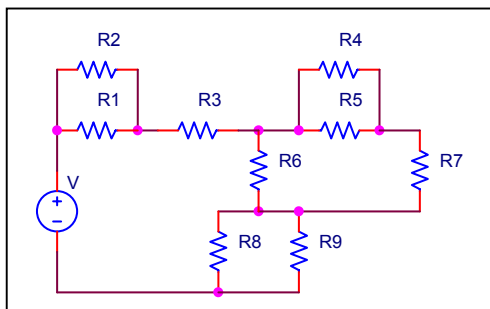
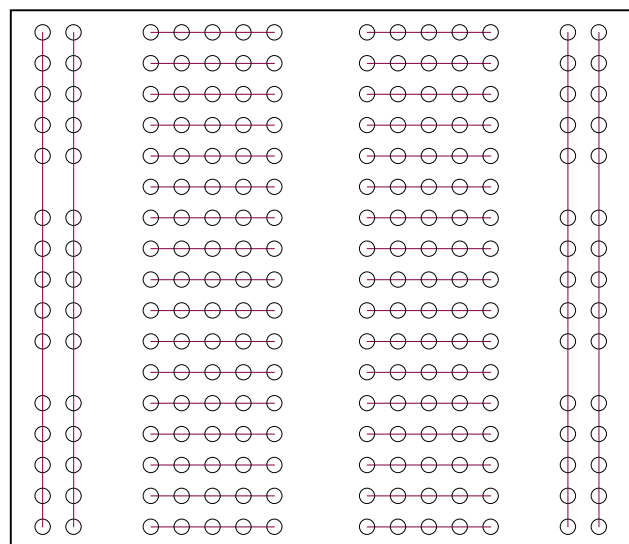

Figure 1.17. *Circuit to demonstrate skills with using breadboard*
Figure 1.18 *Breadboard layout*
- [7 MARKS]** In Figure 1.18 draw a breadboard layout (i.e., a diagram similar to what is shown in Figures 1.3(b), 1.4(b) and 1.5(b)) that shows how to connect the circuit, shown in Figure 1.17.